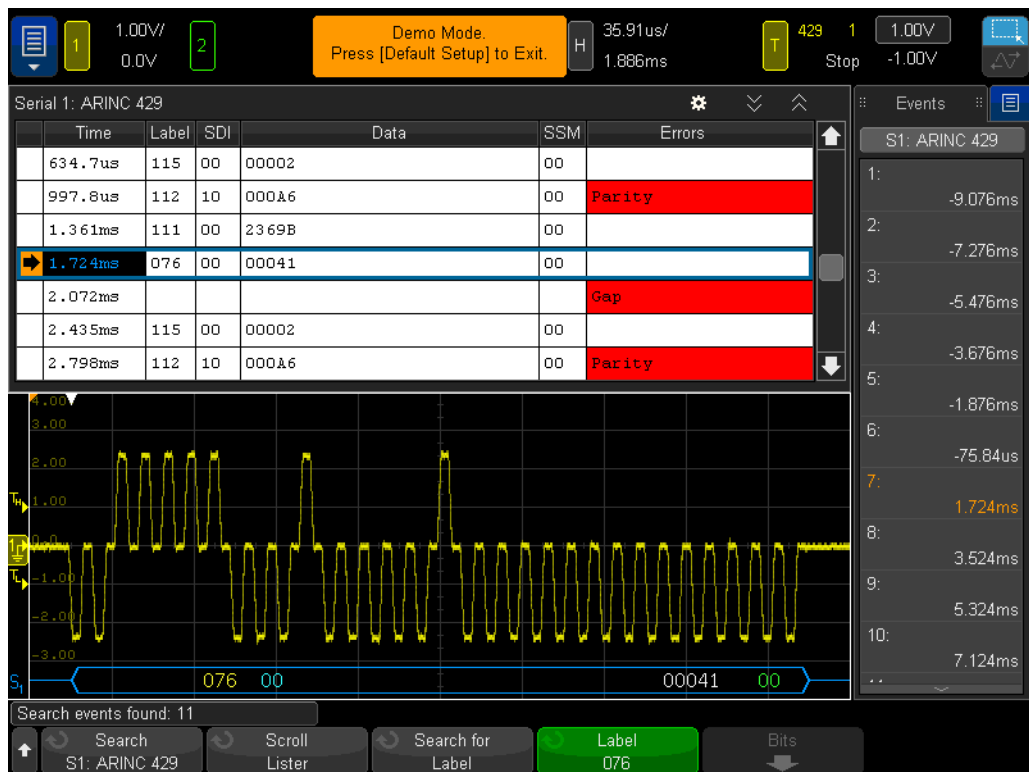

Figure 97 Using the lister to view decoded information.
- 18 Use the ◀ and ▶ front panel navigation keys to automatically scroll through all search results. The lower screen will automatically zoom into the word in the search list, and point to it in the lister window. See **Figure 97**.